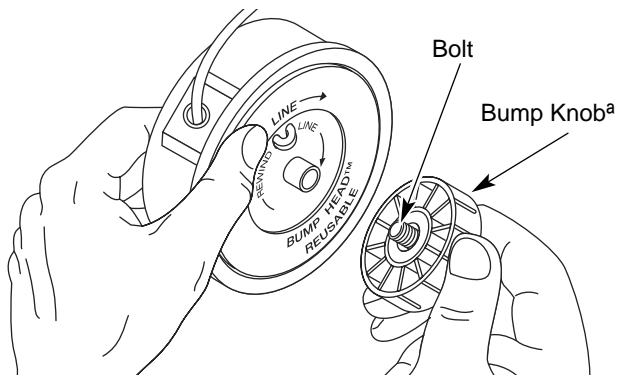

Fig. 12
1. Hold the outer spool with one hand and unscrew the Bump Knob^a counterclockwise (Fig. 12). Inspect the bolt inside the Bump Knob to make sure it moves freely. Replace the Bump Knob if damaged.
1. Hold the outer spool with one hand and unscrew the bump knob counterclockwise (Fig. 12). Inspect the bolt inside the bump knob to make sure it moves freely. Replace the bump knob if damaged.